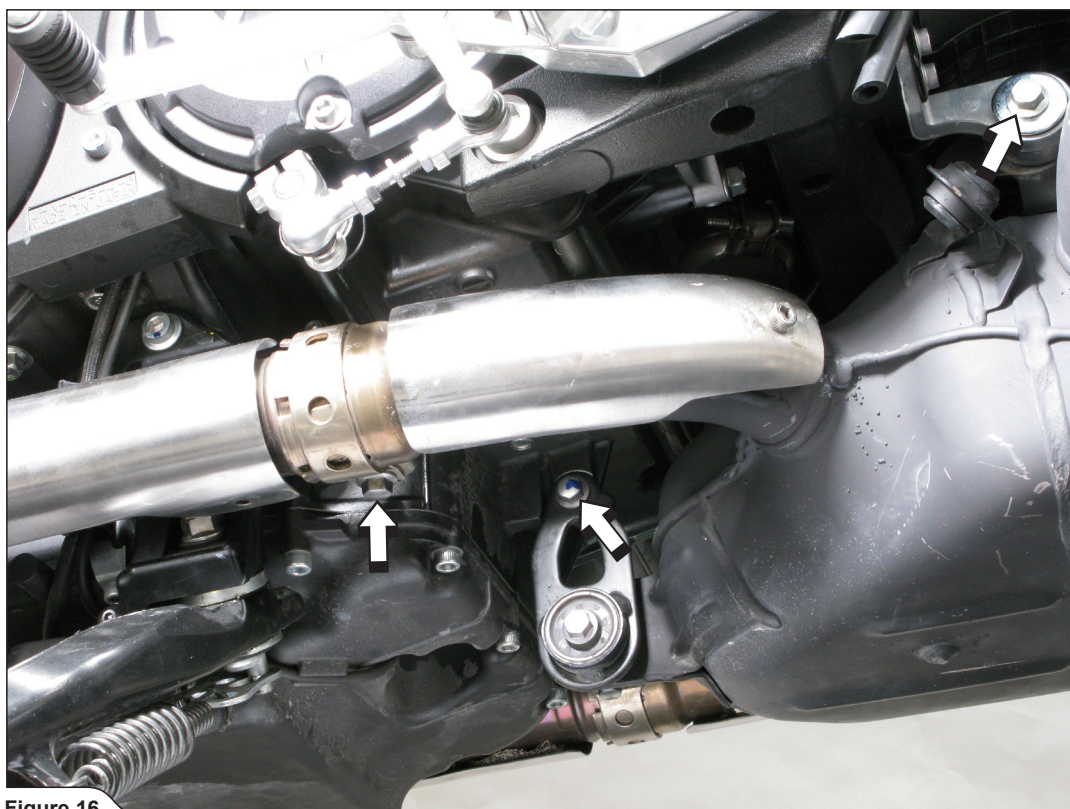

Figure 16
14. **For OPEN SLIP-ON only:** untighten the metal clamp at the catalytic converter box - header tube joint and unscrew the marked bolts from chassis hanging brackets of the catalytic converter box (**Figure 16**).